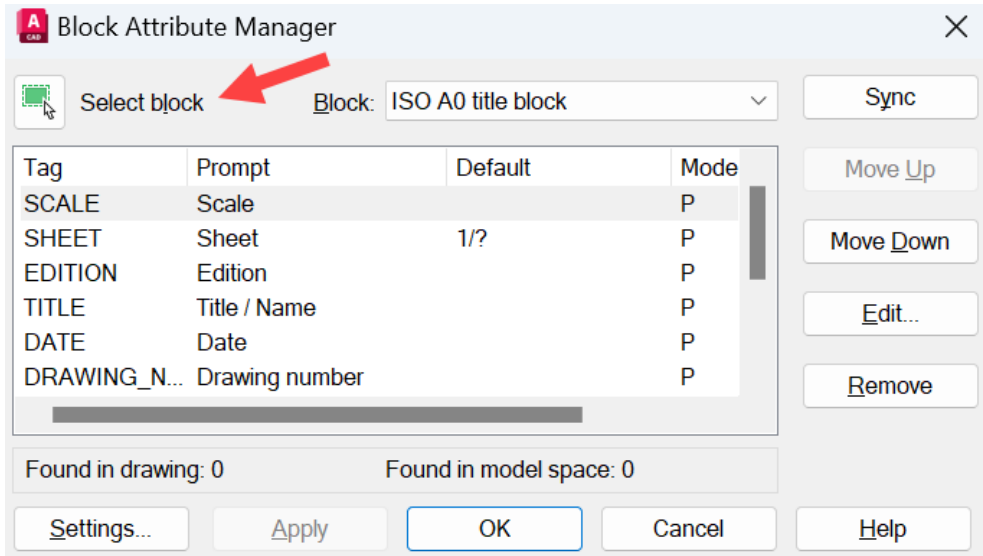

Figure 10.21: Block Attribute Manager (BATTMAN)
2. With no commands running or objects selected, type *BATTMAN*. The dynamic input will automatically bring up the text on the suggestion menu. Press *Enter*, and the **Block Attribute Manager** dialog box will appear on the screen, as shown in *Figure 10.21*.
3. Using the **Select block** icon (shown in *Figure 10.21*), you can then select your PC\_Attributes block.